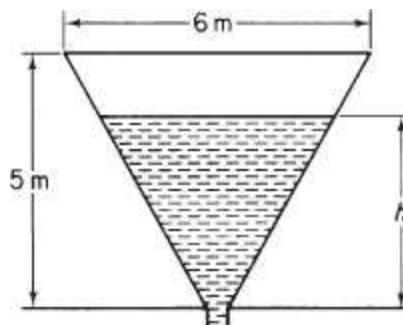

Figure P17.7
17.7. Water flows from a conical tank at the rate of $0.020(2 + h^2)$ m³/min, as shown in Figure P17.7. If the tank is initially full, how long will it take for 75% of the water to flow out of the tank? What is the flow rate at that time?